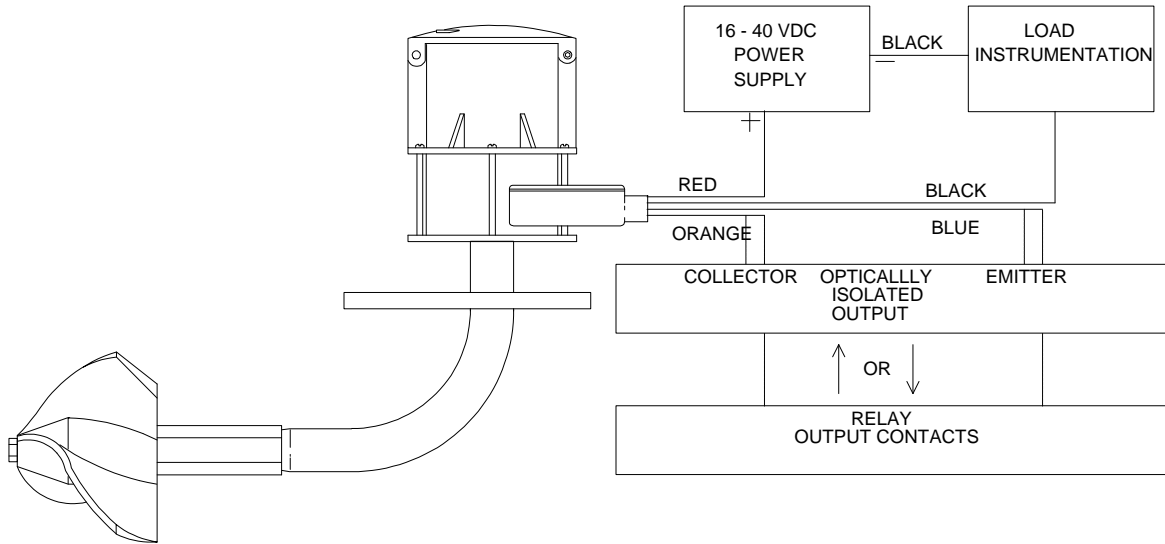

Figure 10. Electrical Connections
- a. Connect the positive (+) lead from the external power supply to the terminal with the RED wire connected inside the conduit, and the negative (-) side of the power supply to the negative side of the LOAD, then connect a wire from the Positive side of the LOAD to the BLACK wire inside the conduit as shown in Figure 10.